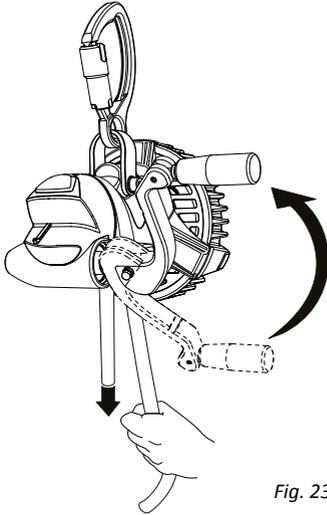
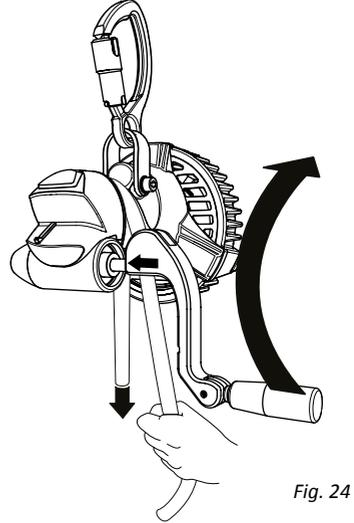
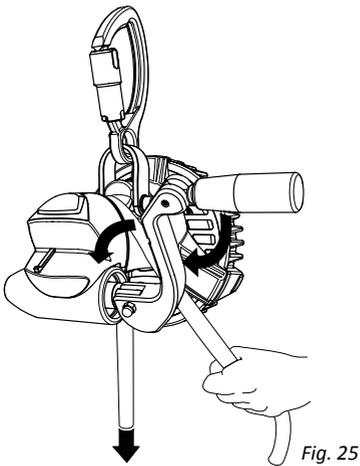

Fig. 23
Fig. 24
Fig. 25
6. Turn the winch handle over (fig 23) and if necessary winch clockwise (fig 24) until the winch handle can be turned over (fig 25 & 26) to descend mode.